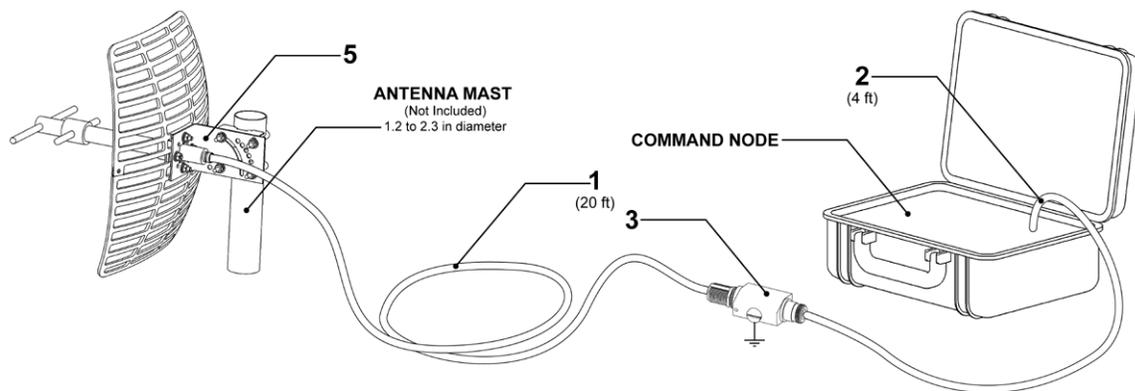

Figure 2 – Antenna Mounting
5. Mount lightning protector (3) to surface within 4 ft of command node. Ground lightning protector (3) with 6 gauge wire from screw on back. See Figure 2.
6. Connect lightning protector to antenna with 20 ft RF Cable (1)
7. Connect lightning protector to STARS Command Node using 4 ft RF Cable (2)